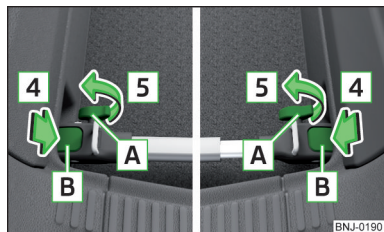

Fig. 111
- Push in the brackets **B** » Fig. 111 in the direction of arrow **4** until they audibly click into place.